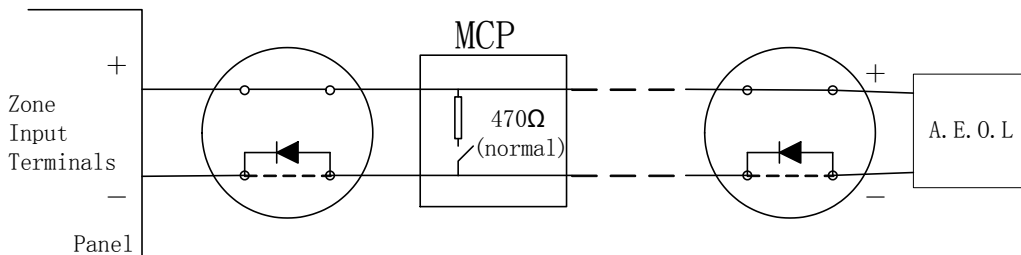

Fig. 8 Wiring diagram when using Active End of Line unit
- a) Wiring diagram when using Active End of Line unit is shown in Fig. 8.